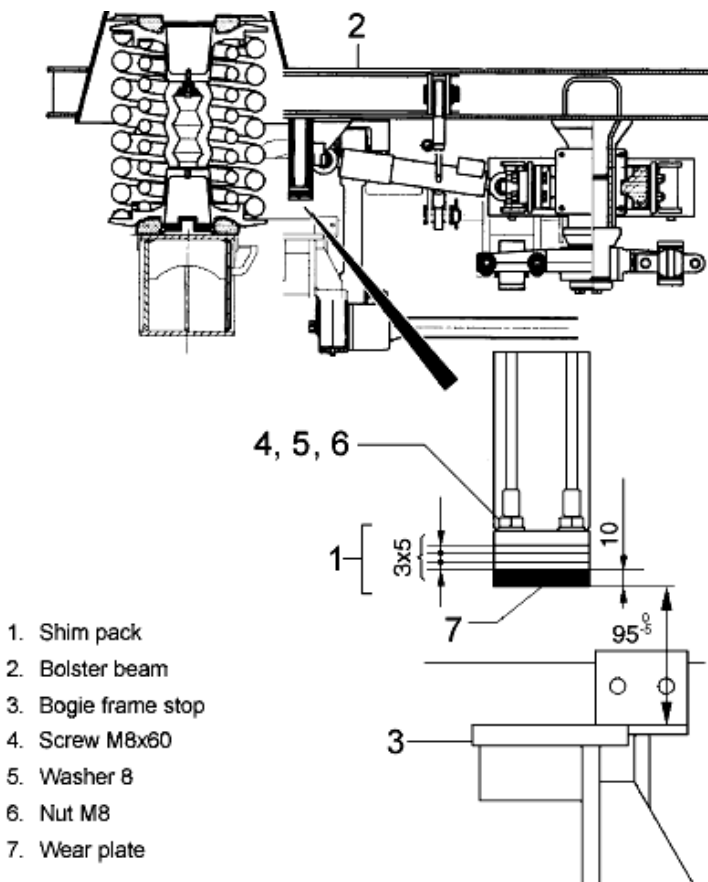

Fig 4.5 Bolster beam shims
Under tare load conditions, check that distance between the shims (Fig.4-5) under the bolster beam (2) and the bogie frame stops (3) lies within the shown values (95^{+5}_{-5} mm). The shim pack (1) is made of three 5 mm and one 10 mm wear plate (7). The same check must be performed after mounting the bogie under the car body.